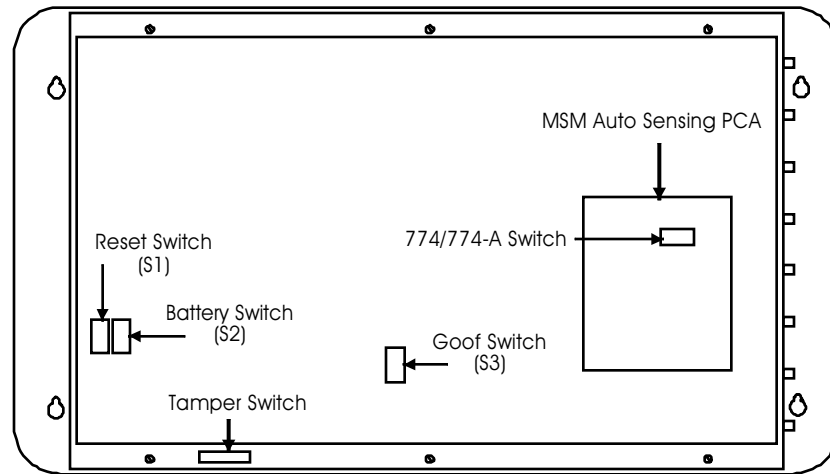

Figure 5-3: Alto 818 Switch Locations (Cover Removed)
1. If still in the command mode, type BYE (B); and press Enter.
4. If you do not plan immediate installation of the ACU, remove the cover from the Alto 818 and ensure that S2 (Figure 5-3) is off. Replace the cover of the Alto 818.